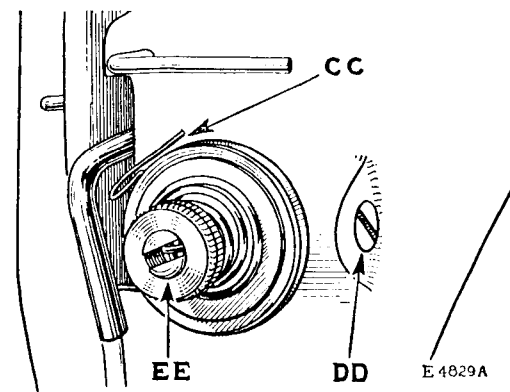

FIG. 25. ADJUSTMENT OF THREAD TAKE-UP SPRING
The thread take-up spring (CC, Fig. 25) should be set so that when the eye of the needle reaches the goods on the downward
stroke of the needle bar, the spring will be through acting and will rest against the stop on the thread take-up spring regulator. If the thread take-up spring is not correctly set, as instructed above, loosen the set screw (DD, Fig. 25) in the arm of the machine, and turn the tension stud (EE, Fig. 25) to the right for more movement of the spring or to the left for less movement. When the spring is correctly set, securely tighten the set screw (DD).